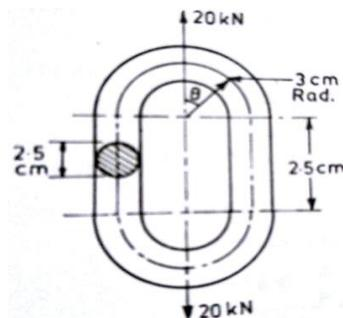

Fig.4
4. A chain link shown in fig.4; is subjected to a pull of 200kN. It is composed of steel 2.5cm diameter and has a mean radius of 3cm. Its semi-circular ends are connected by straight pieces 2.5 cm long. Estimate maximum compressive stress in the link and tensile stresses at the same section. 15M